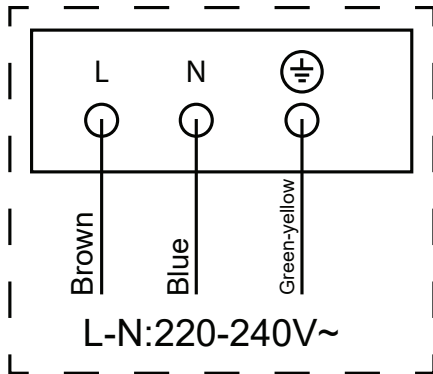

Fig. 9
- The hob is already supplied with a mains cable. In case it is necessary to replace the mains cable due to damage, Fig. 9 or Fig. 10, shows the wiring of the terminal box.